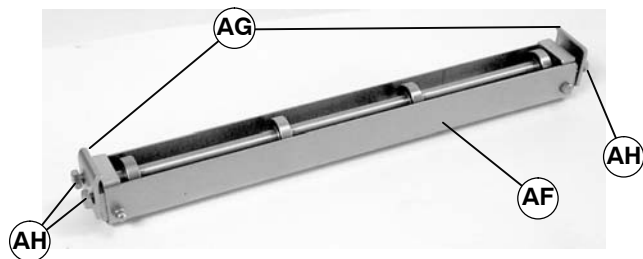
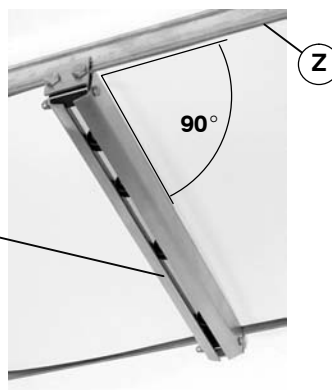

Figure 15
Figure 16
2. Loosely attach two clamp plates (AG of Figure 15) on roller and guard assembly (AF) with four screws (AH). Do not tighten screws.
3. Attach return roller assembly (AI of Figure 16) on conveyor (Z). Make sure return roller assembly is perpendicular with conveyor frame as shown. Tighten screws (AH of Figure 15) to 80 in-lb (9 Nm).